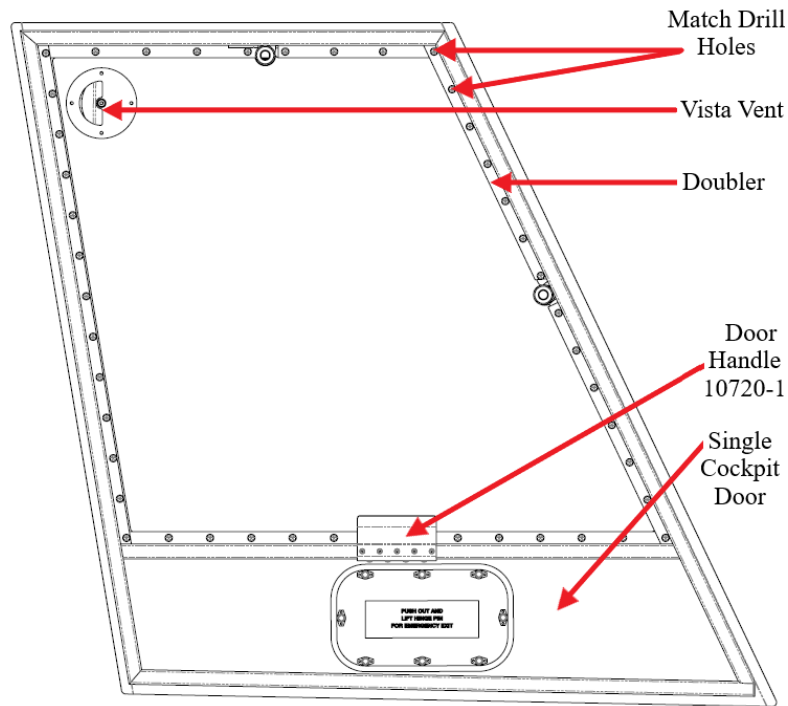

Figure 5: Door Handle, Vista Vent, and Doubler on Single Cockpit Door (Inside View)
6. Remove door handle 10720-1 (Figure 5).
7. Remove Doublers to gain access to single cockpit door window (Figure 5).
10. Trim new Door Window 10838-7 (L/H) to fit in door (Figure 5) with 1/8-inch clearance all around for expansion. Make a 2.5-inch diameter hole for Vista Vent. Refer to step 9 in Section 8.1. for further trimming instructions.
11. Match drill holes from removed door (Figure 5). Refer to step 10 in Section 8.1. for further drilling instructions.